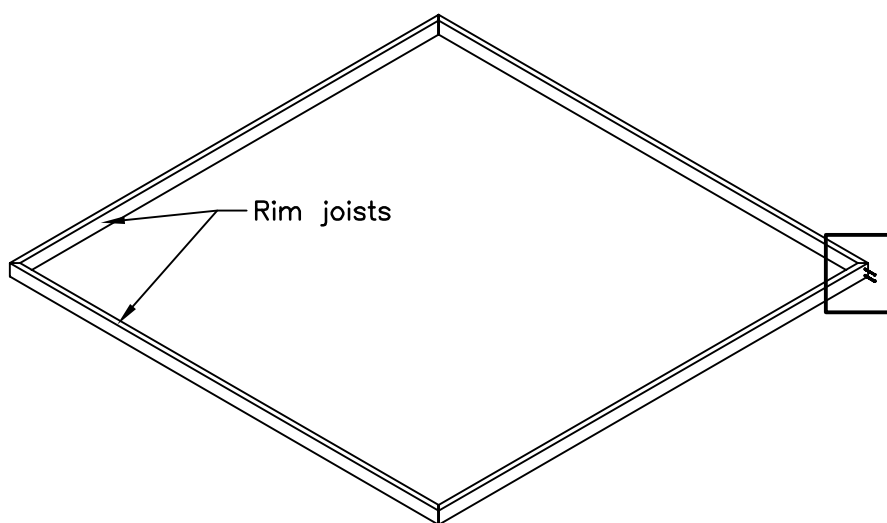

FIGURE S1
- Place the 4 rim joists as shown in Figure S1. Fasten them together using 2–3" long screws per joint.